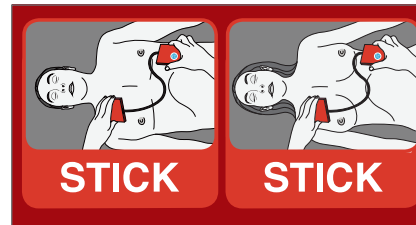

FIGURE 9B: STICK placement for adult males & females
Both electrode pads are placed on exposed skin on the front of the patient. STICK one pad firmly onto the patient's exposed skin just below their right collar bone, above the breast. STICK the other pad onto the patient's exposed skin on their left side, below or under the breast (**Figure 9B, page 37**).
- vi) STICK one pad firmly onto the patient's exposed skin just below their right collar bone, above the breast. STICK the other pad onto the patient's exposed skin on their left side, below or under the breast (Figure 9B, page 37). Press firmly so that the entire pad adheres to the patient's skin.